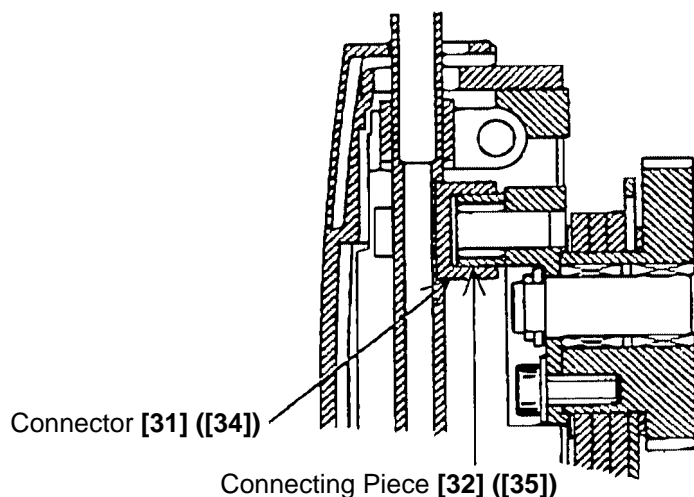

Fig. 14
(2) Confirm that the Connecting Piece [32] ([35]) surely fits into the Connector [31] ([34]) as shown Fig. 14.